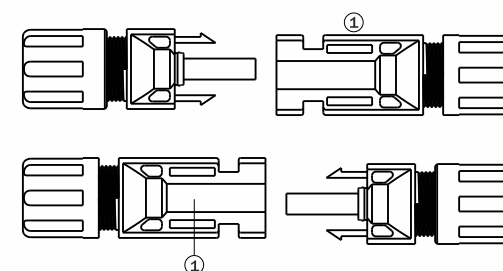

Fig. 6.7 1) Connection Port
7. Connect the positive and cathode connectors into positive & negative DC input terminals of the inverter, a "click" should be heard or felt when the contact cable assembly is seated correctly as shown in fig 6.7.